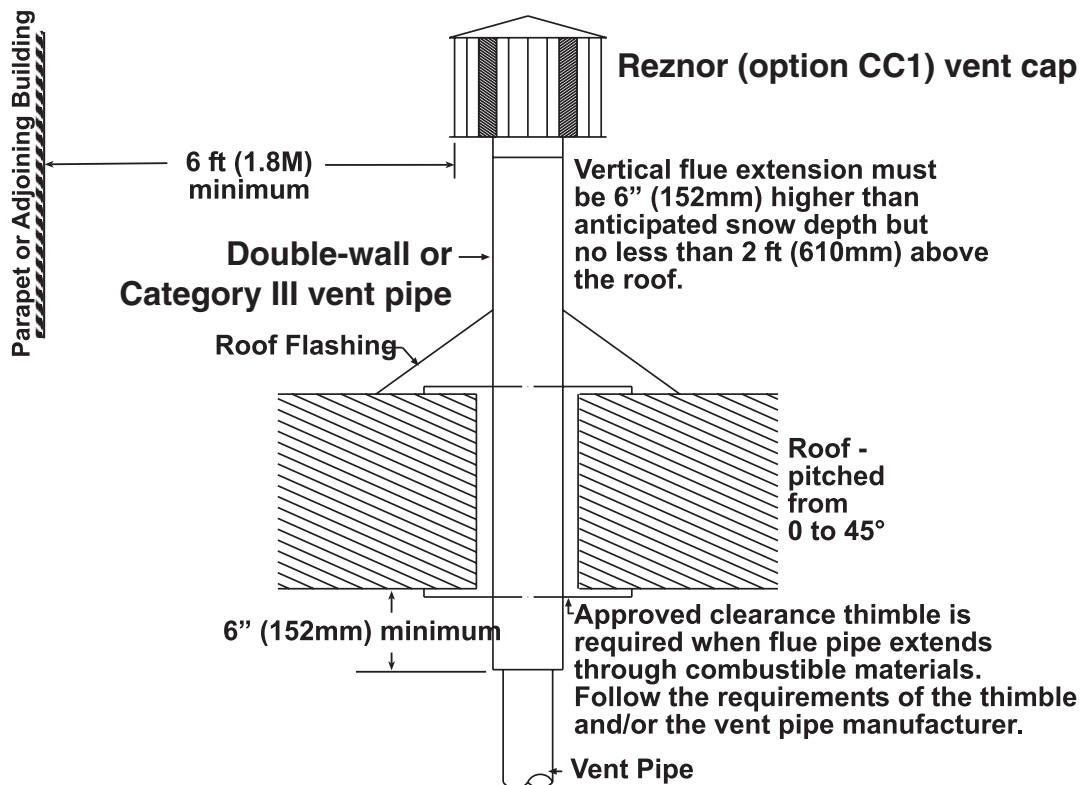

Figure 12. Vertical Vent Terminal
- Install the vertical vent terminal in accordance with Figure 12.